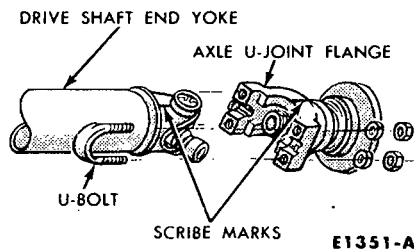

FIG. 14—Drive Shaft-to-Axle U-Joint Connection
14. Connect the rear end of the drive shaft to the axle U-joint flange, aligning the scribe marks made on the drive shaft end yoke and the axle U-joint flange (Fig. 14).
4. Connect the drive shaft to the axle U-joint flange, aligning the scribe marks made on the drive shaft end yoke and the axle U-joint flange during the removal procedure (Fig. 14). Install the U-bolts and nuts and torque to specifications.
8. Make scribe marks on the drive shaft end yoke and the axle U-joint flange to insure proper position of the drive shaft at assembly (Fig. 14). Disconnect the drive shaft from the axle U-joint flange. **Be careful to avoid dropping the loose universal joint bearing cups.** Hold the cups on the spider with tape. Mark the cups so that they will be in their original position in relation to the flange when they are assembled. Remove the drive shaft from the transmission extension housing. Install an oil seal replacer tool in the transmission extension housing to prevent transmission leakage. Refer to the transmission group for the appropriate tool.